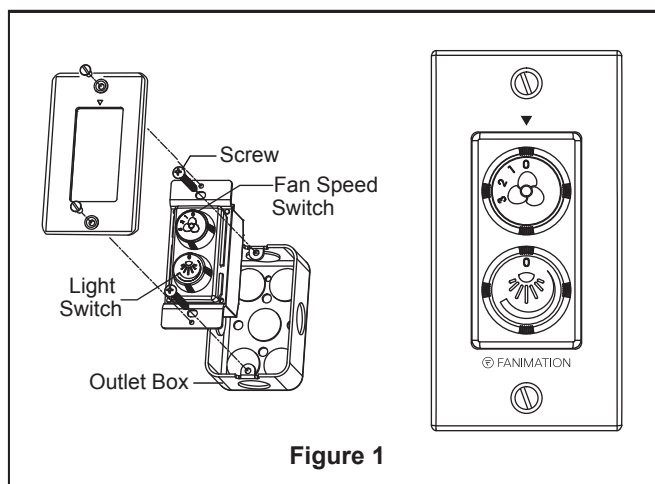

Figure 1
1. Carefully push all connected wires inside wall switch box. Secure the wall-mounted control to the outlet box with two screws provided. Then, the face plate attaches the wall control with two painted screws. (Figure 1)